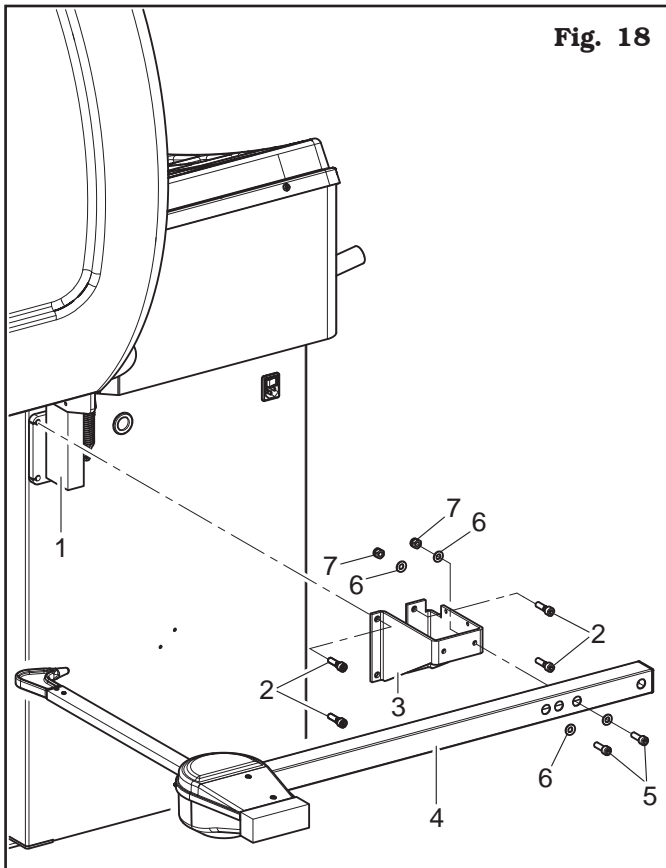
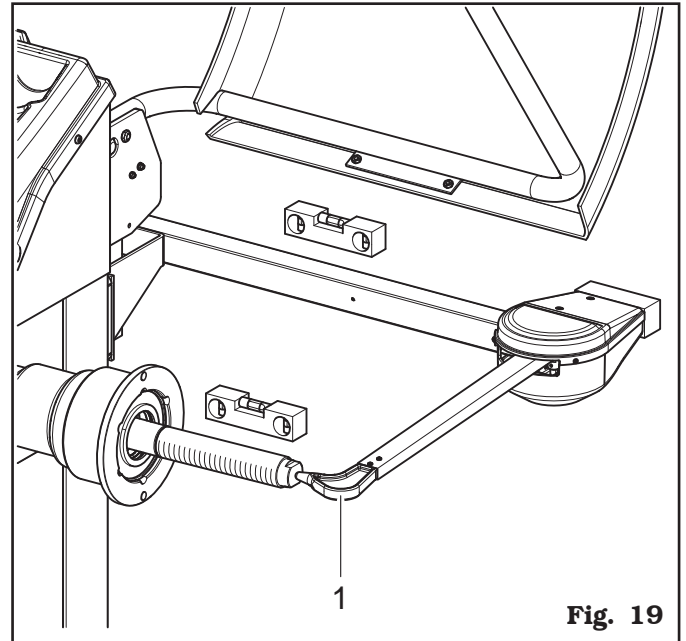

Fig. 18
Fig. 19
1. Unscrew the 3 screws (in vertical position) of the protection guard support (**Fig. 18 ref. 1**) being very careful about holding the same support.
2. Screw the 4 screws (**Fig. 18 ref. 2**) to the gauge bracket (**Fig. 18 ref. 3**) and in the special threaded inserts placed on the rear side of the frame. Lock the gauge arm (**Fig. 18 ref. 4**) by screwing the 2 screws provided (**Fig. 18 ref. 5**) and the washers (**Fig. 18 ref. 6**). Lock these screws with the nuts (**Fig. 18 ref. 7**) and the washers (**Fig. 18 ref. 6**) so that the mandrel and the gauge arm are levelled out (see **Fig. 19**).
3. Make sure the gauge tip is positioned at the centre of the mandrel (**Fig. 19 ref. 1**).